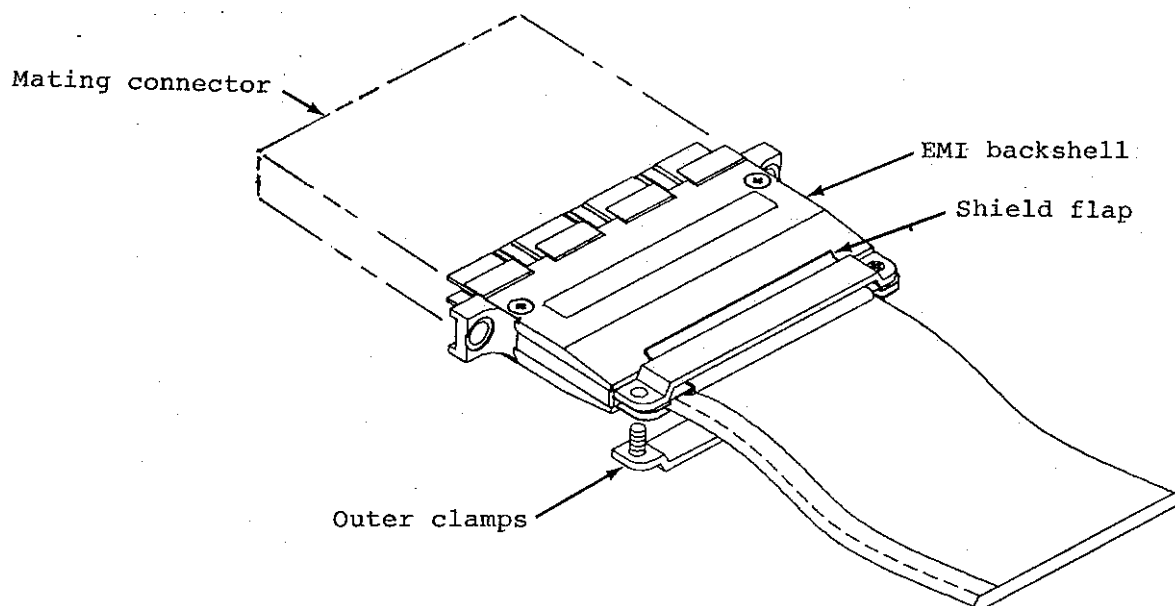

Figure 27. Installing Outer Clamps
14. Install the the outer clamps at the rear of the EMI backshells (Figure 27).